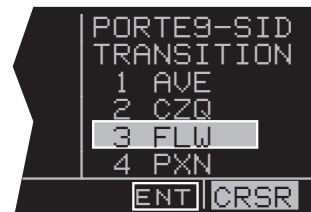

Figure 6-35
5. The last bit of information needed to define this SID is the transition. This example uses the Fellows transition. To select the Fellows transition, move the cursor down to **FLW** (figure 6-35) and press **ENT**.